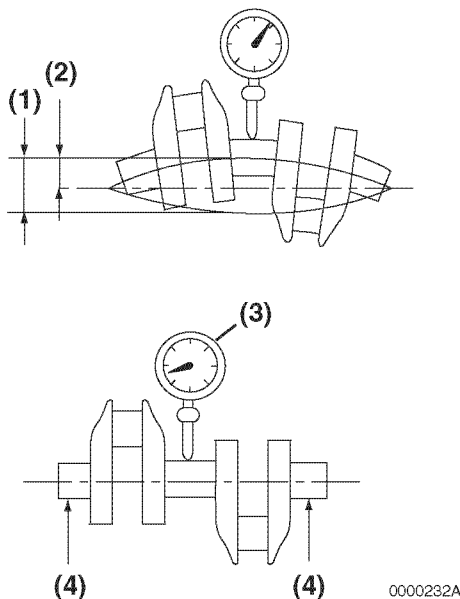

Figure 6-119
1. Place the crankshaft end journals (Figure 6-119, (4)) on V-blocks.
2. Place a dial indicator (Figure 6-119, (3)) on a center main bearing surface.